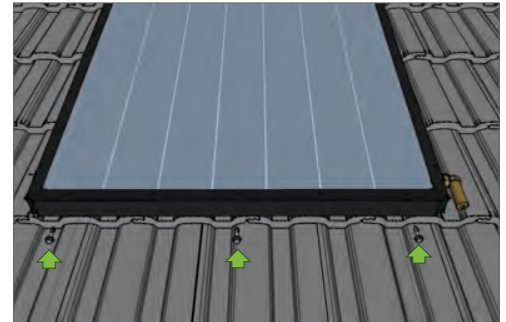

Fig 7
5. Fasten the collector/s to the mounting rail using the screws supplied (Fig 7).